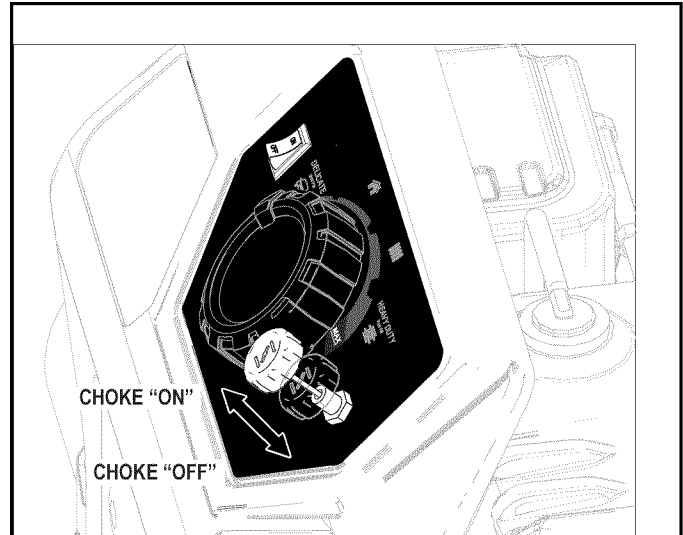

Figure 5-4. Choke Knob
3. Choke the engine by slowly pulling out on the choke knob until it stops in the “ON” position (Figure 5-4).
For a warm engine, push the choke knob down until it stops in the “OFF” position (Figure 5-4).